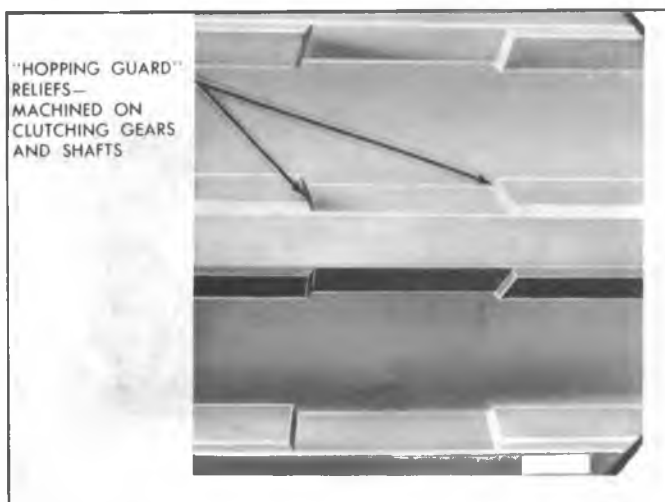

Fig. 5R—Spicer Hopping Guard
**IMPORTANT:** The splines on many clutching gears, mainshaft, etc., are equipped with a machined relief called a hopping guard as shown in Figure 5R. With the clutch gear in the engaged position, the mating gear is free to slip into this notch, preventing the two gears from separating or walking out of gear under various load conditions. This is not a worn or chipped gear. **DO NOT GRIND IT DOWN OR DISCARD THE GEAR FOR THIS REASON.**